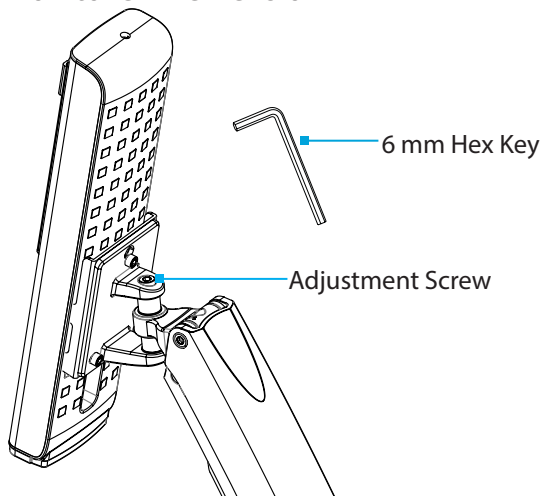

Figure 28
- Adjust the **Adjustment Screw**, located on the swivel point of the **Monitor Arm**, to increase or decrease the swivel effort, using the **6 mm Hex Key**. (Figure 28)